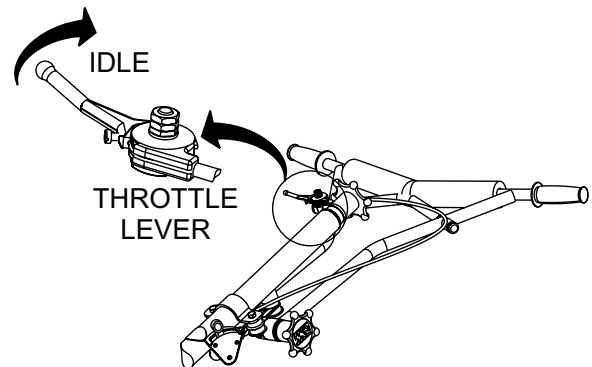

Figure 27. Throttle (Idle Position)
2. Pull the **throttle lever** (Figure 27) slightly backwards and place in the "IDLE" position.